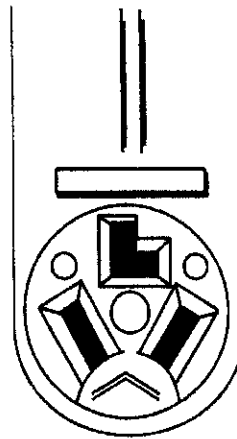
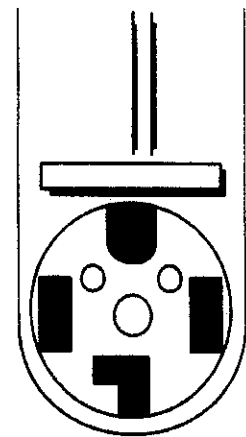

Fig. 2
Fig. 3
- A. A three-wire (Fig. 2) or four-wire (Fig. 3), single phase, 120/240 volt, 60 Hz, AC only electrical supply is required on a separate 30-ampere circuit, fused on both sides of the line. A time-delay fuse or circuit breaker is recommended.